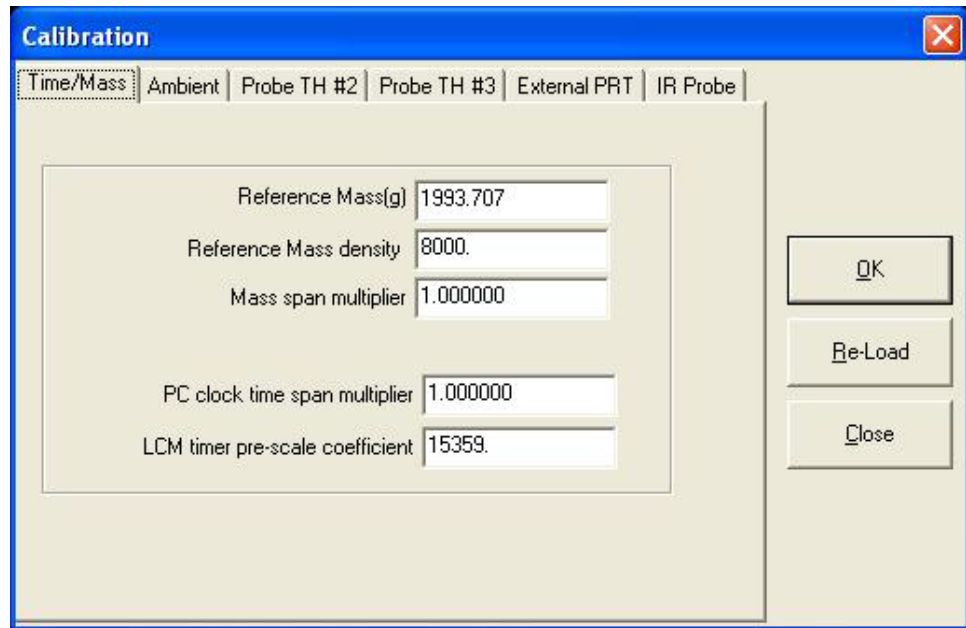

Figure 112. Calibration Time/Mass tab
- 3 If the frequency is not within the  $\pm 0.035$  Hz limit, it can be changed in 0.02 Hz (or 0.016 @ 500 Hz) increments by changing the LCM timer pre-scale coefficient in steps of 1: an increase of 1 lowers the frequency by 0.02 Hz (0.016 Hz), and a decrease raises the frequency by the same amount. In GFS Tools software, use **[Setup]**, **[Calibration]** to read all of the user level coefficients from the LCM. Change the value of the LCM timer pre-scale coefficient on the **Time/Mass** tab (see Figure 112) to bring the frequency within the limits and select **OK**.